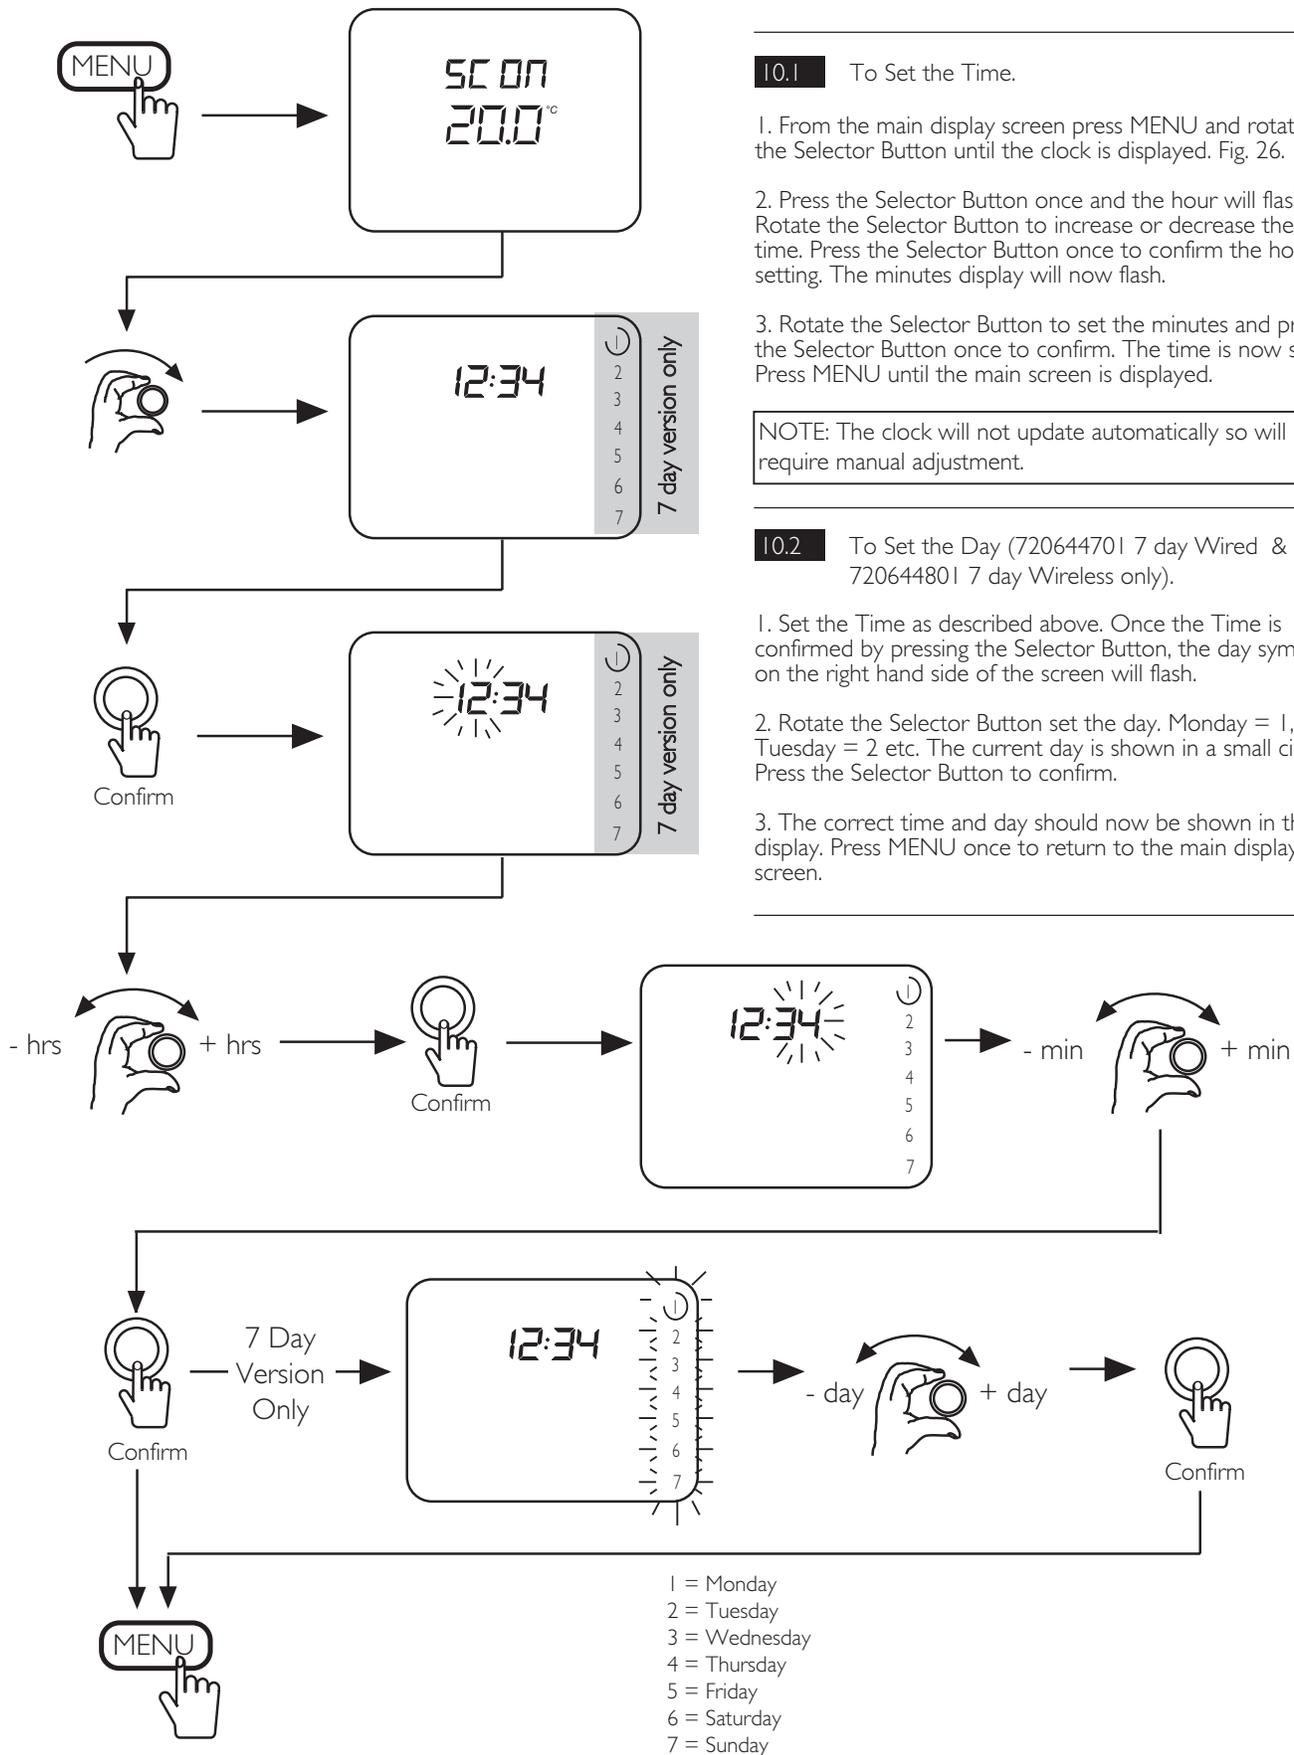

Fig. 26. Setting the Time & Day
1. From the main display screen press MENU and rotate the Selector Button until the clock is displayed. Fig. 26.